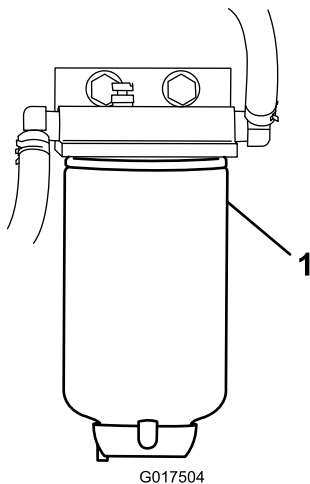

Figure 37
3. Unscrew the fuel filter from the bracket (Figure 37).